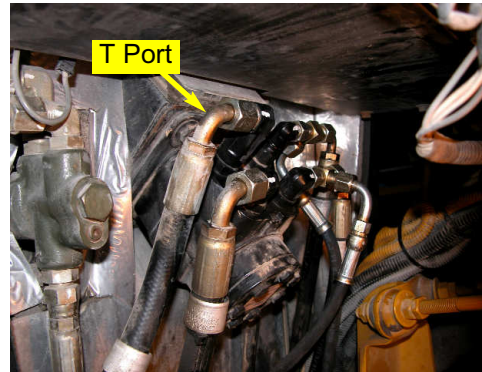

Figure 3b. Automated Steering system T Port.
b. Locate the steering orbital under the cab. The tank return for the Automated Steering Block will be relieved to the T port on the steering orbital. (Figure 3b.)
- b1. Locate the port stamped **T** on the top right side of the steering orbital. (Figure 3b.)